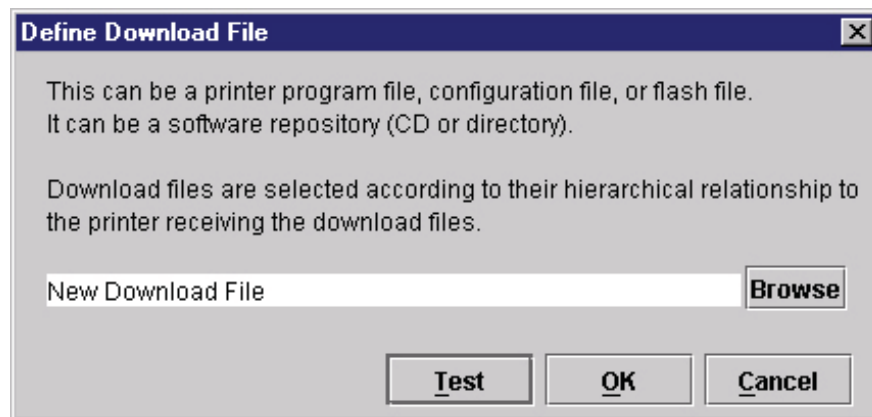

Figure 72 Define Download File
1. Double-click  **New Download File**. The Define Download File dialog box opens. See Figure 72.